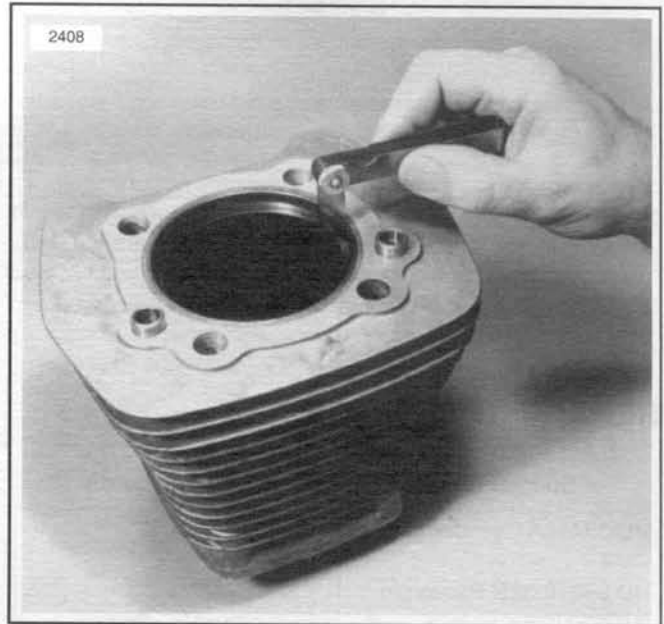

Figure 3-37. Check Ring Gap
- See Figure 3-37. Check the end gap of both oil rings and the compression rings. Use the top of the piston to square the ring in the bore.